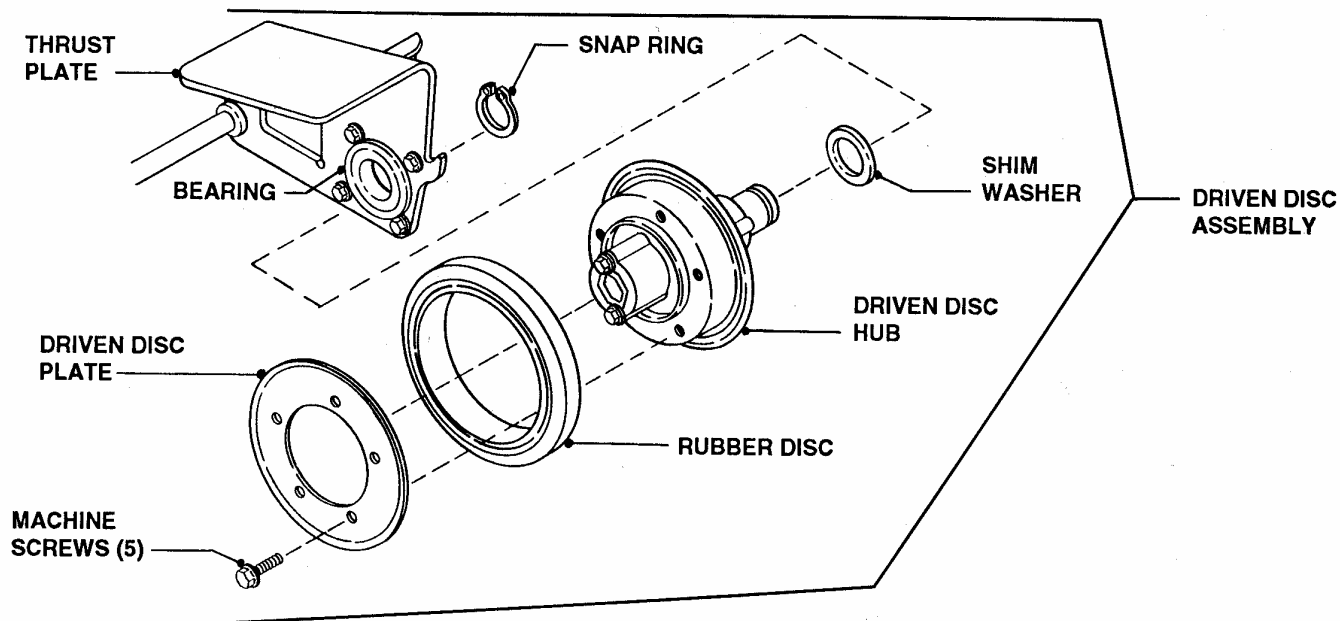

FIGURE 4
**STEP 3:** Remove the five machine screws from the driven disc plate. Separate the plate and rubber disc from the driven disc hub. See Figure 4.
**STEP 4:** Remove snap ring from driven disc hub and trust plate and slide hub out as shown in Figure 4.